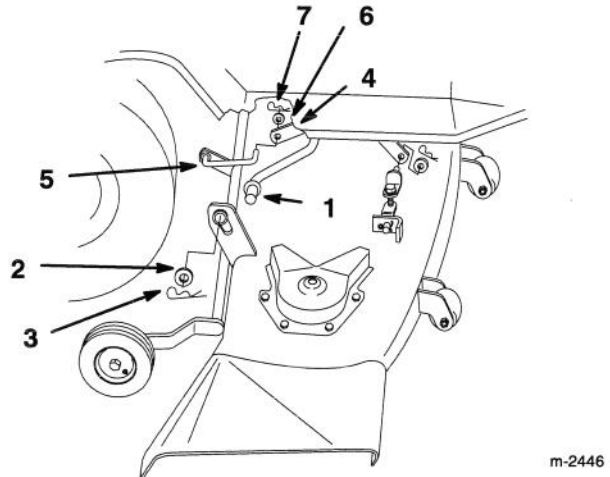

Figure 13
5. Remove small hairpin cotter and washer from rear link and remove from attachment lift (Fig. 13).
6. Remove hairpin cotters and washers from rear lift arms (Fig. 13).
7. Slide deck right, off rear lift arms (Fig. 13).